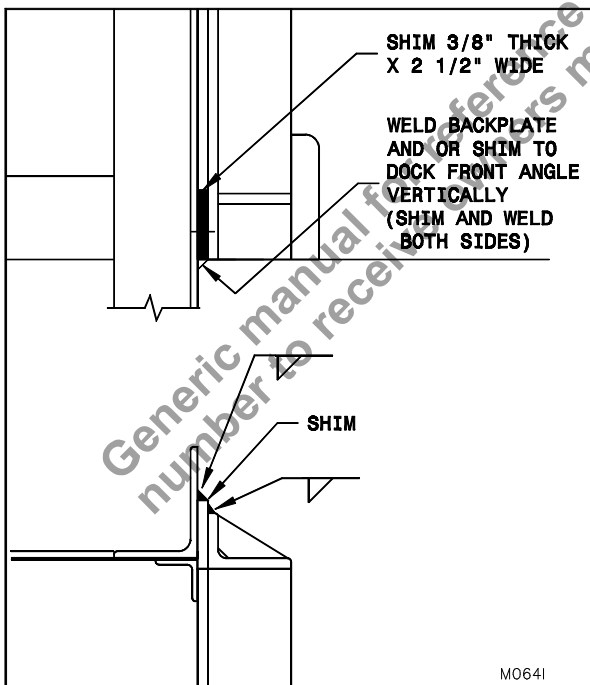

Figure 8: Back Plate is Lower than Dock Front Angle
n) If the back plate of the restraint is lower than the top of the front angle of the dock leveler, shim between the top angle of the back plate and the front angle of the dock leveler and weld the shim to both as shown in "Figure 8: Back Plate is Lower than Dock Front Angle" on page 13.